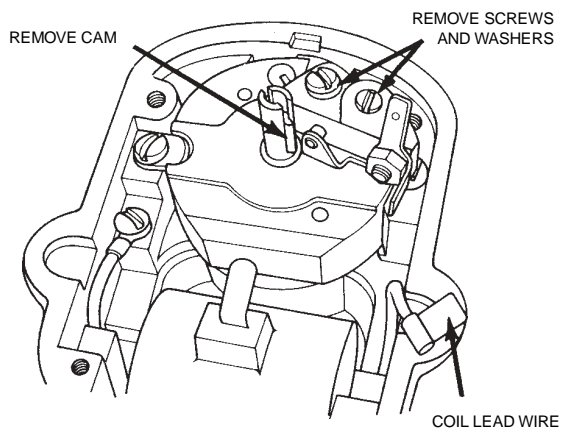

Figure 6.7.1
- Remove cam by prying straight up with a screwdriver blade. (See Figure 6.7.1.)